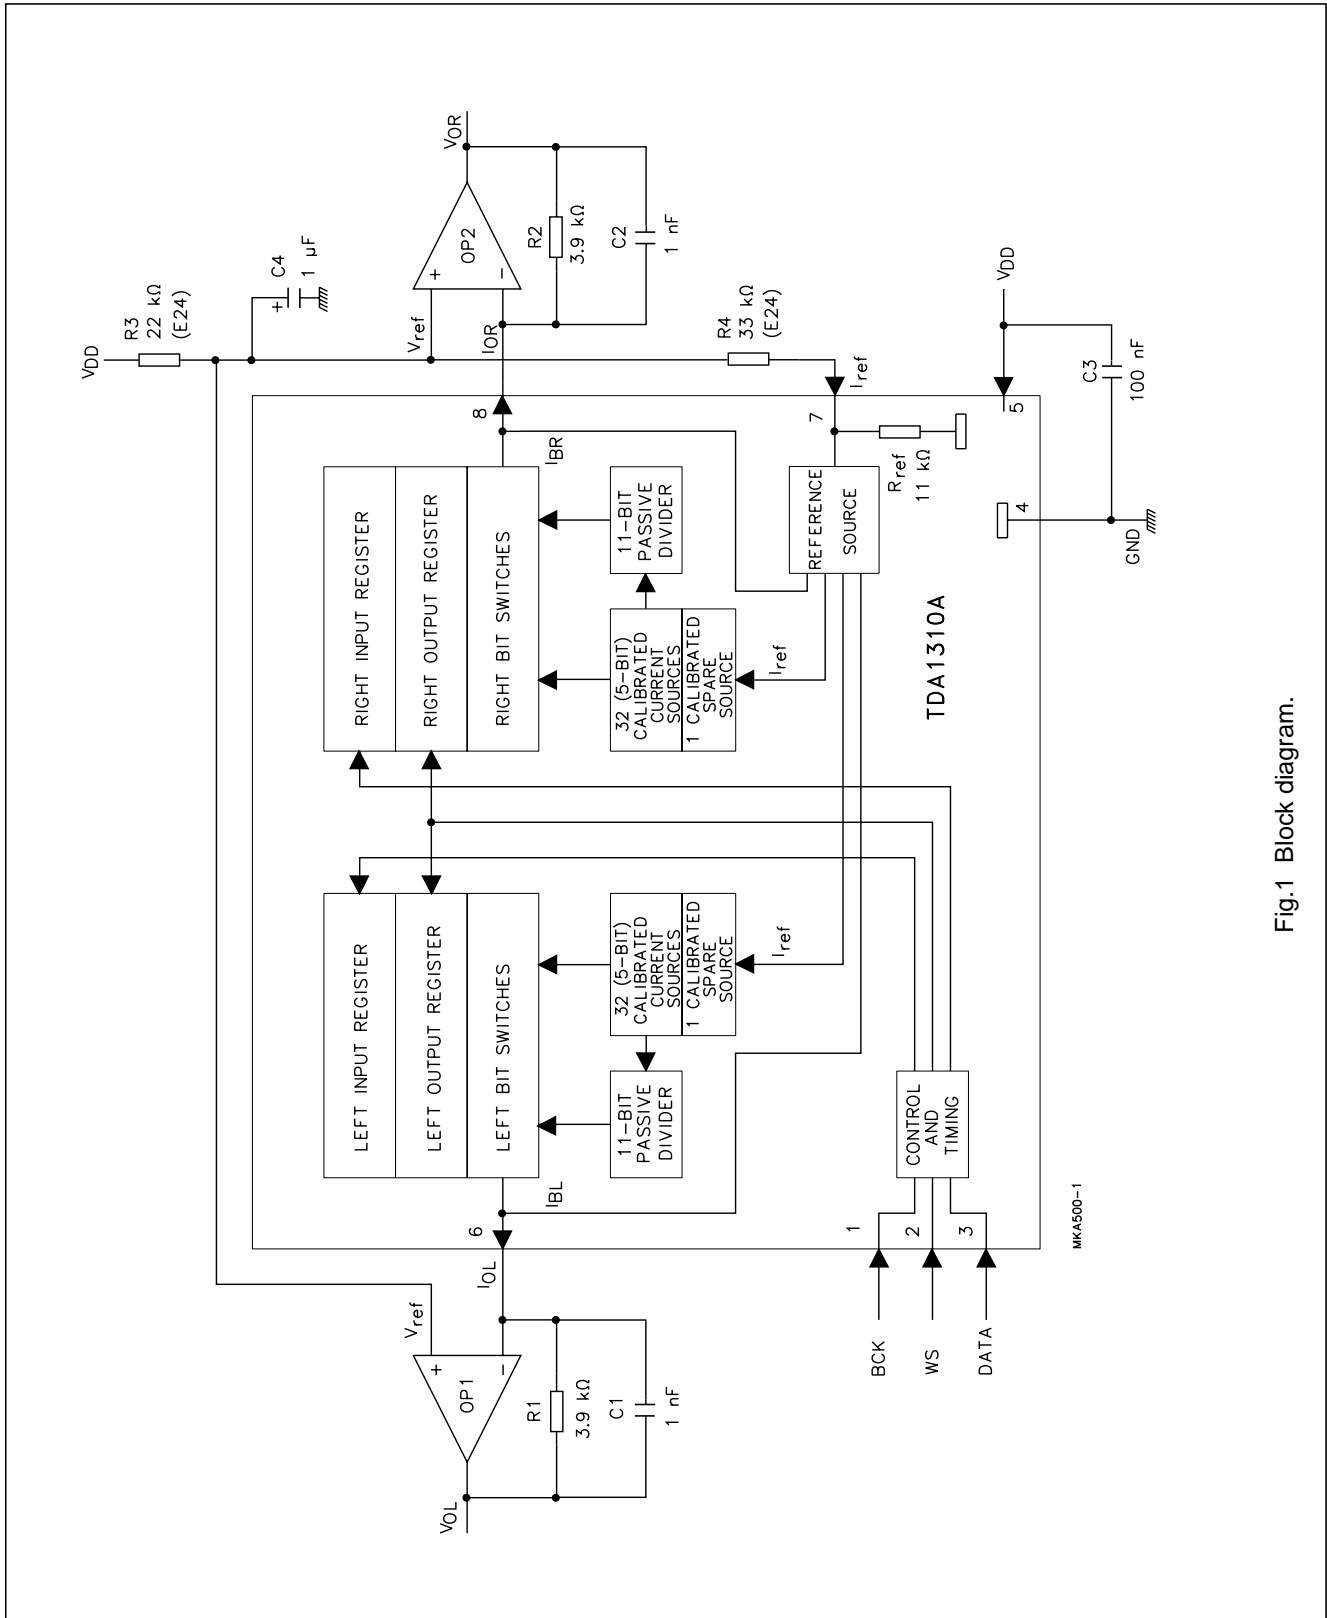

Fig.1 Block diagram.
| | | A-weighted; $I_{FS} = 2\text{ mA}$; $R3 = R4 = 11\text{ k}\Omega$; see Fig.1 | – | 95 | – | dB |
The 32 current sources and the spare current source of the TDA1310A are continuously calibrated (see Fig.1). The spare current source is included to allow continuous converter operation. The output of one calibrated source is connected to an 11-bit binary current divider consisting of 2048 transistors. A symmetrical offset decoding principle is incorporated and arranges the bit switching in such a way that the zero-crossing is performed only by switching the LSB currents.
With a HIGH level on the word select input (WS), data is placed in the left input register, with a LOW level on the WS input, data is placed in the right input register (see Fig.1). The data in the input registers are simultaneously latched in the output registers which control the bit switches.
An internal bias current I_{bias} is added to the full scale output current I_{FS} in order to achieve the maximum dynamic range at the outputs OP1 and OP2 in Fig.1.
The reference voltage V_{ref} in Fig.1 is $\frac{2}{3}V_{DD}$. In this way maximum dynamic range is achieved over the entire power supply voltage range.
The tolerance of the reference input current in Fig.1 depends on the tolerance of the resistors R3, R4 and R_{ref} ⁽³⁾.
CHARACTERISTICS $V_{DD} = 5\text{ V}$; $T_{amb} = 25\text{ }^{\circ}\text{C}$; measured in Fig.1; unless otherwise specified.
| R_{ref} | reference resistor | see Fig.1 | 7.4 | 11.0 | 14.6 | $\text{k}\Omega$ |
| at –60 dB signal level; A-weighted; note 2; R3 = R4 = 11 k Ω ; see Fig.1; I _{FS} = 2 mA | – | 1.7 | – | % | | |